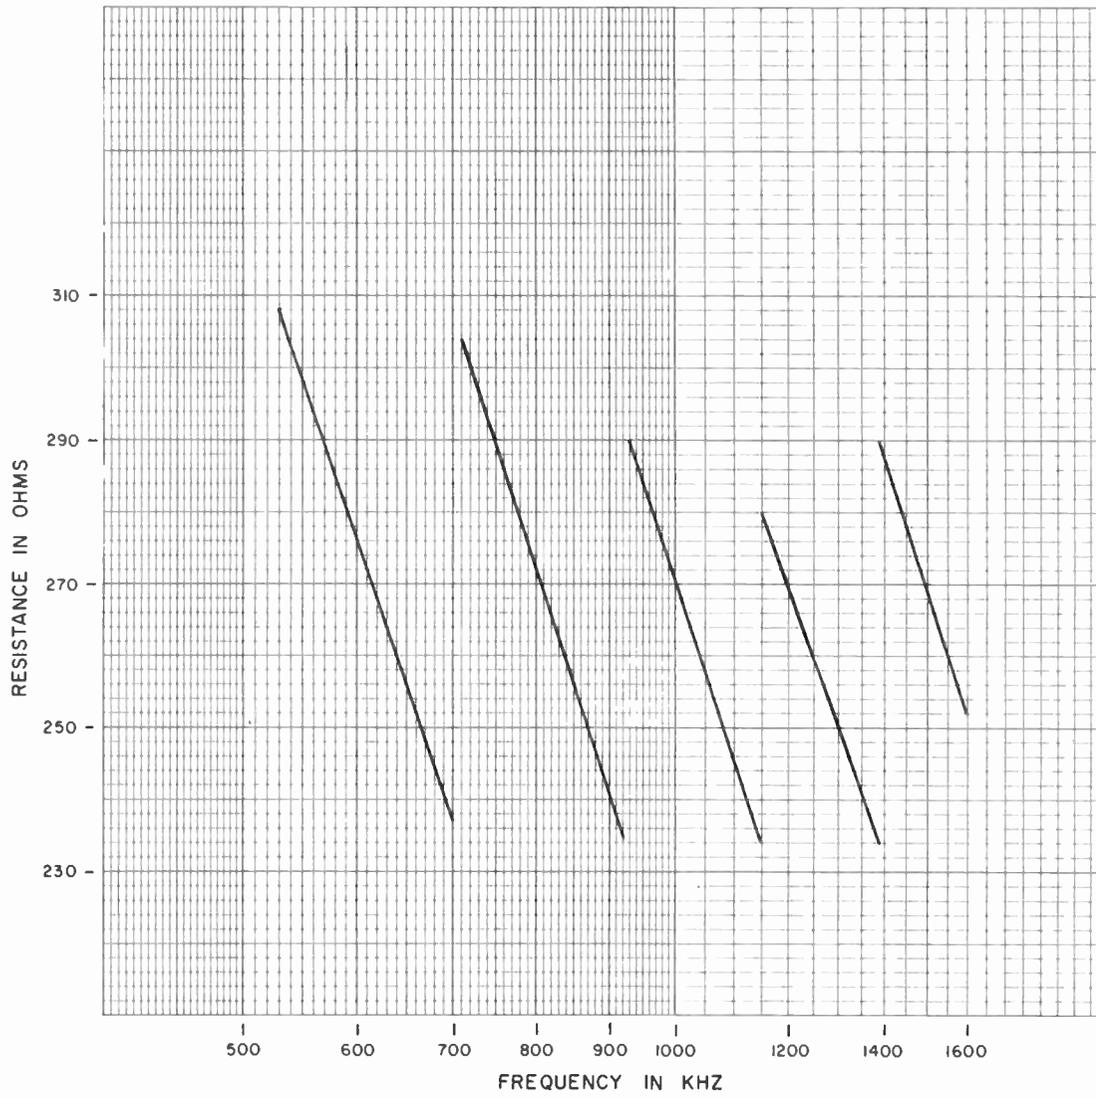

Figure 5-10. Resistance $R_{22} = R_{22C}$ Values.
- n. Adjust strap 2 for a resistance value R_{22_C} (figure 5-10).